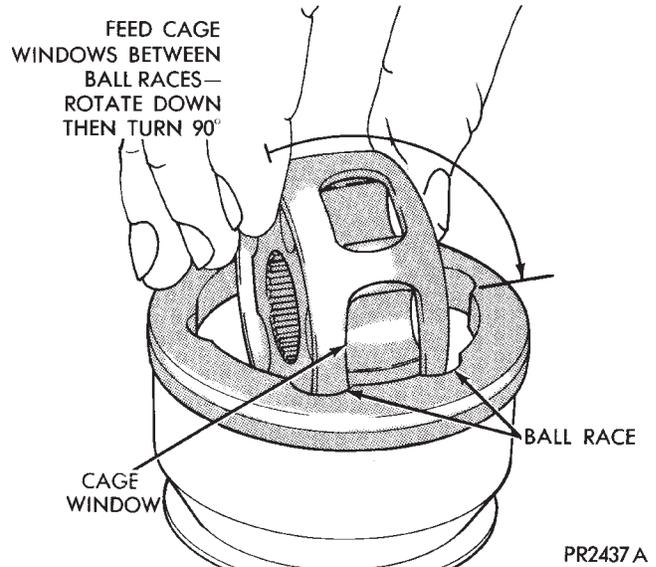

Fig. 4 Installing Cage & Cross into Housing
(6) Align opposing cage windows with housing land and feed cage assembly into housing (Fig. 4). Pivot cage 90° to complete installation.